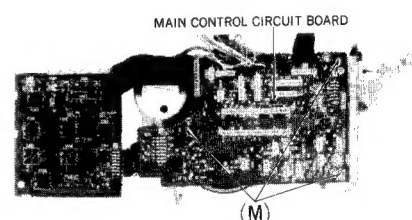

Fig. 8
<p>㊦ Erase current</p> <p>Condition:</p> <ul style="list-style-type: none"> * Tape selector ... Metal position * Record mode <p>Equipment:</p> <ul style="list-style-type: none"> * VTVM * Oscilloscope 	<ol style="list-style-type: none"> 1. Test equipment connection is shown in fig. 8. 2. Place UNIT into record mode and measure voltage at test point 1. 3. Determine erase current with the following formula: $\text{Erase current (A)} = \frac{\text{Voltage across both ends of R272}}{1 (\Omega)}$ <div style="border: 1px solid black; padding: 5px; text-align: center;"> Standard value: $145 \pm 5 \text{ mA}$ (Tape selector ... Metal) </div> <ol style="list-style-type: none"> 4. If measured value is not within standard, adjust VR9.  <p style="text-align: center;">Fig. 8</p>